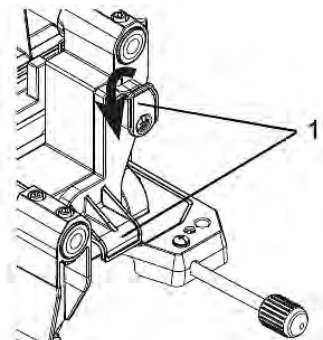

Fig. 12: Storage of the power cable
7.6 Storage of the power cable (Fig. 12)